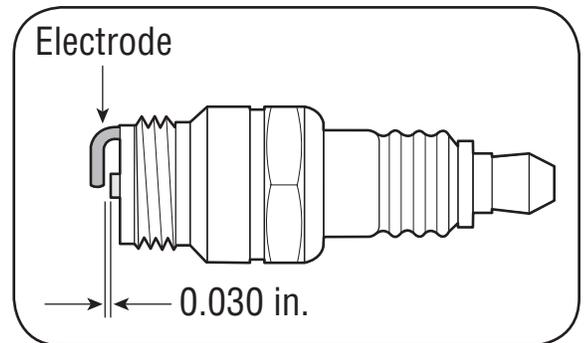

Figure 4-4
3. Measure the plug gap with a feeler gauge. Correct as necessary by bending side electrode. See Figure 4-4. The gap should be: 0.030 in.